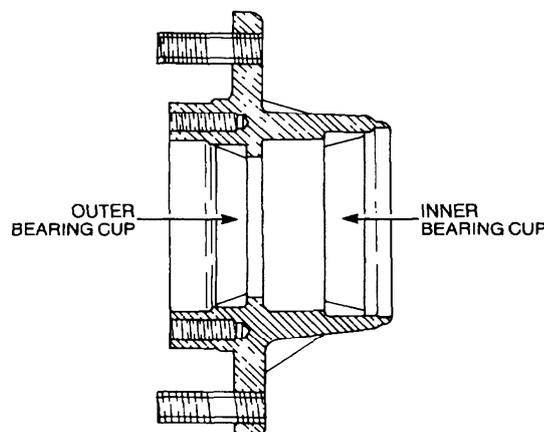

Figure 103 Bearing Cup Installation
- a.** Using a suitable drift or press, install the bearing cups, ensuring that the wide sides are towards each other (Figure 103).